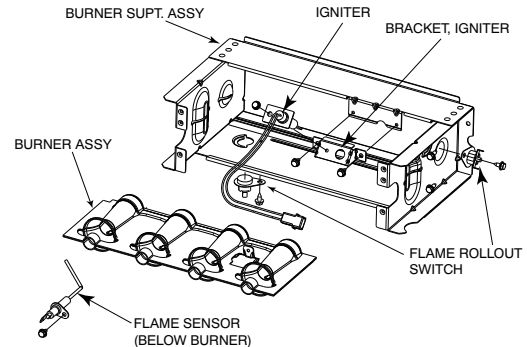
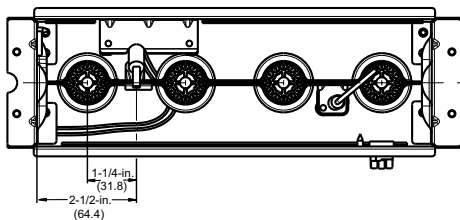
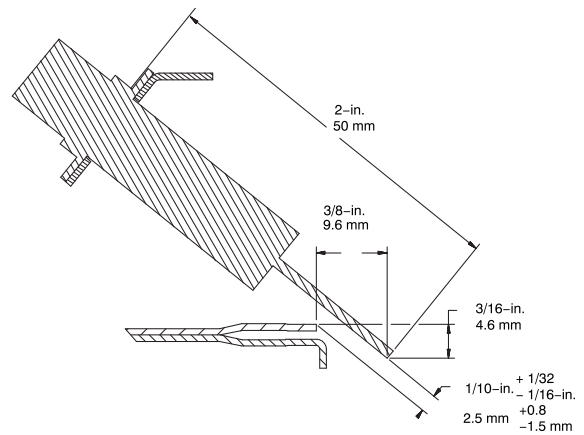

Fig. 68 – Burner Assembly
Fig. 69 – Igniter Position - Top View
Fig. 70 – Igniter Position - Side View
Refer to Fig. 68.
8. Check the igniter alignment. See Fig. 69, Fig. 70 and Fig. 68.
The igniter does **NOT** require annual inspection. Check igniter resistance before removal. Refer to Fig. 69, Fig. 70 and Fig. 68.
- a. Using a 1/4-in. driver, remove the two screws securing the igniter mounting bracket to the burner assembly See Fig. 68.
6. To replace igniter and bracket assembly, reverse items 5a through 5d.
7. Reconnect igniter harness to the igniter, dressing the igniter wires to ensure there is no tension on the igniter itself. See Fig. 68.